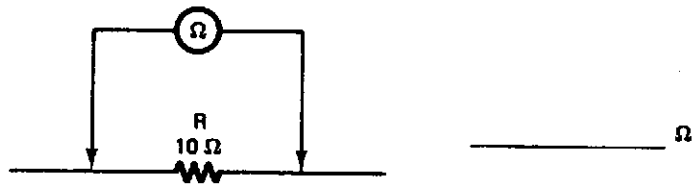

FIGURE 2-3C
6. Notice that the ohms scale on the meter is *nonlinear*. The divisions on the right side of the scale are farther apart than those on the left side. This provides a more accurate measurement of resistance when the needle of the meter deflects and stops somewhere between the center of the ohms scale and zero. Choosing the proper range adjustment will control where the needle deflects. Adjust the function-select switch to the $\times 1$ range of the ohms function. Zero the meter, and then connect it across a $10\text{-}\Omega$ resistor. Record the precise resistance (in ohms) indicated by the needle on the ohms scale in Fig. 2-3C. The range selected for this operation was $\times 1$, which means that the number to which the needle points will be multiplied by 1.